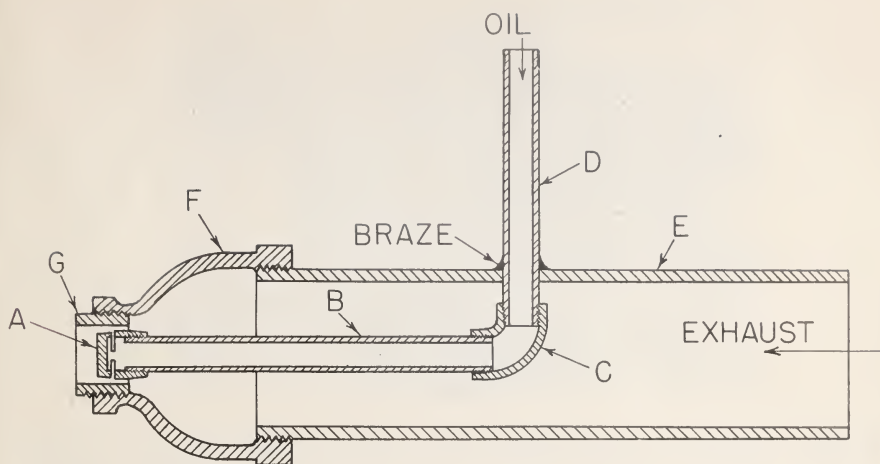

Figure 1.--Exhaust aerosol nozzle.
The nozzle is constructed of pipe fittings, and very little machining, or special equipment, is required (fig. 1). A 1/8-inch pipe cap (A) is first slotted on both sides with a thin hacksaw blade so that there is 3/32 inch of metal at the center separating the slots. These slots are made 3/16 inch from and parallel to the closed end of the cap. The outside of the cap is then machined down to 17/32 inch (o.d.) from the slot to the open end and 1/2 inch (o.d.) from the slot to the closed end with a slight taper at each end.